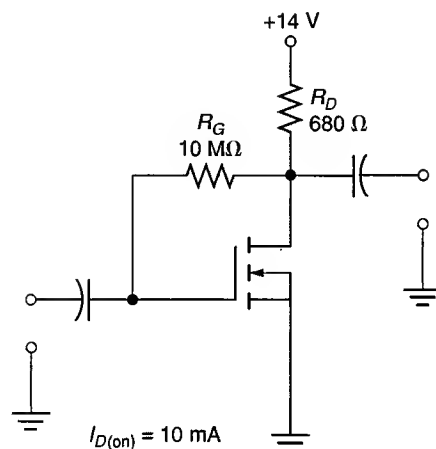

FIGURE 13.31
13. Calculate the values of I_D and V_{DS} for the amplifier in Figure 13.31.